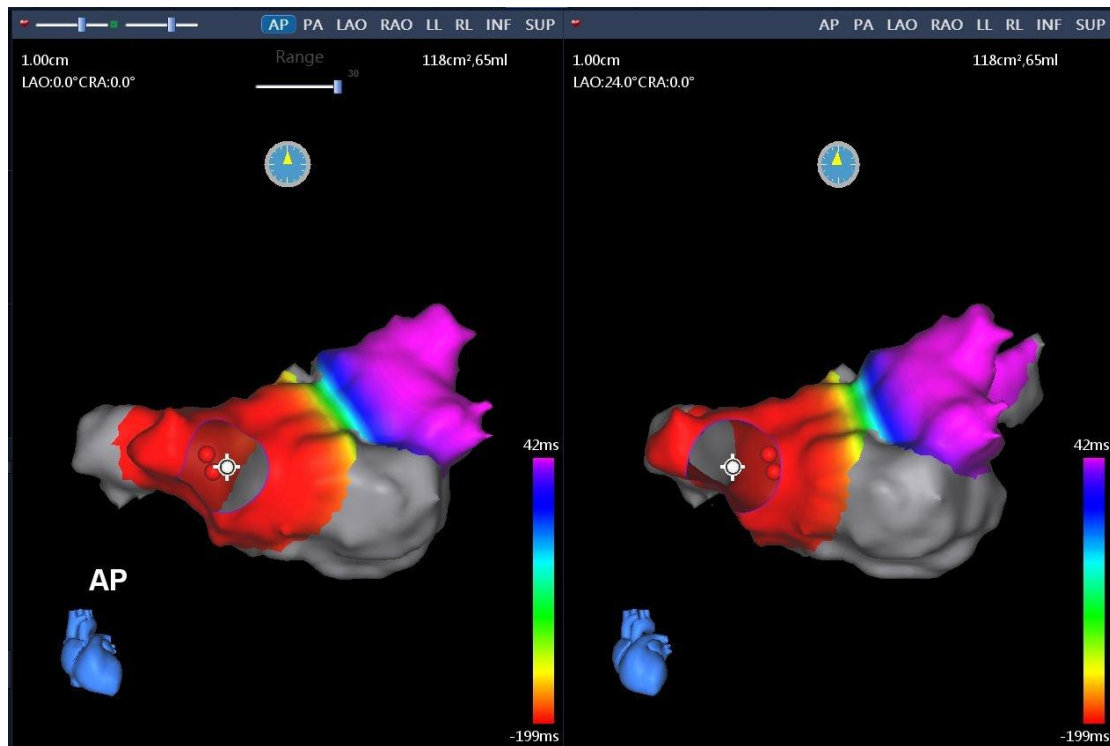

Figure 10-33 RTM. Annular Opening
- 3) Press and hold the point with the left mouse button and adjust the annulus size through the "plus" and "minus" on the keypad (Figure 10-33).